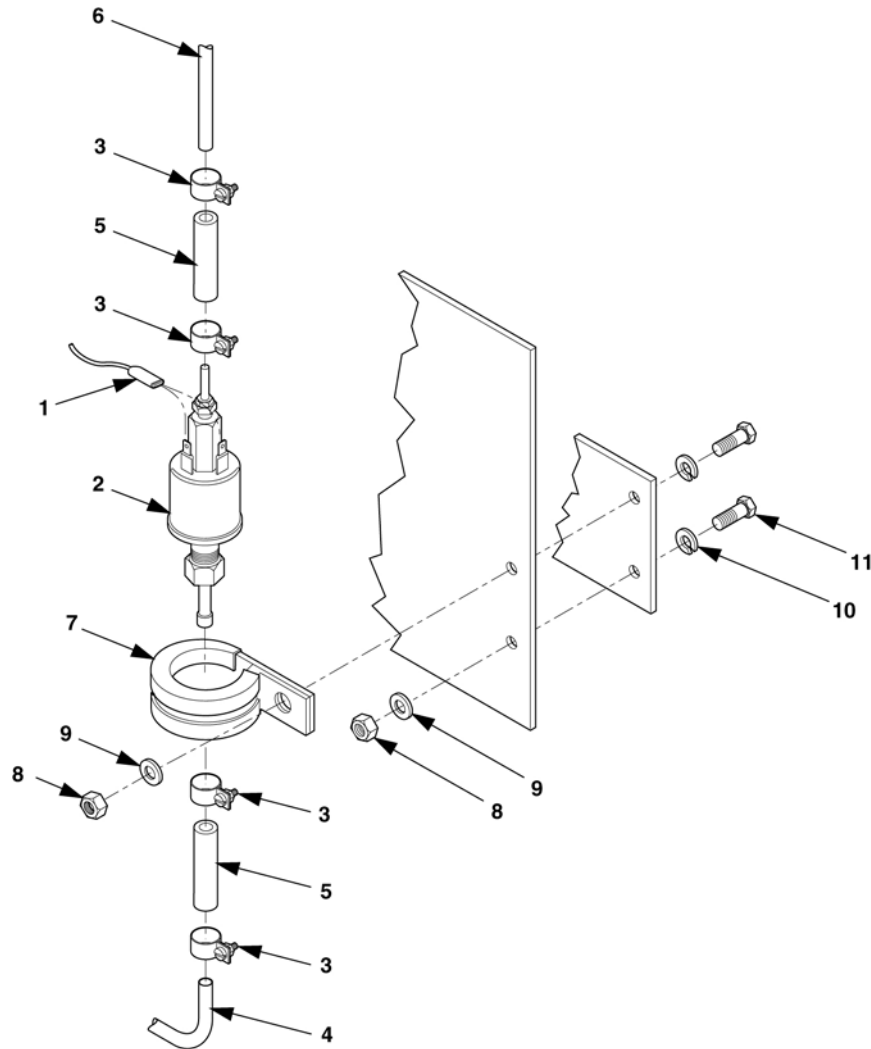

Figure 4-22. Fuel Pump Maintenance.
2. Disconnect electrical leads (1) from connector, Figure 4-22, on fuel pump (2).
3. Loosen screw clamps (3) to disconnect fuel line (4) and butt splice (5) from input end of fuel pump (2). Drain any fuel from line into a suitable container.
4. Loosen screw clamp (3) to disconnect butt splice (5) and fuel line (6) from output end of fuel pump (2). Drain any fuel from line into a suitable container.
5. Remove nut (8), lock washer (9), flat washer (10), and screw (11).
6. Remove fuel pump (2) from clamp (7).